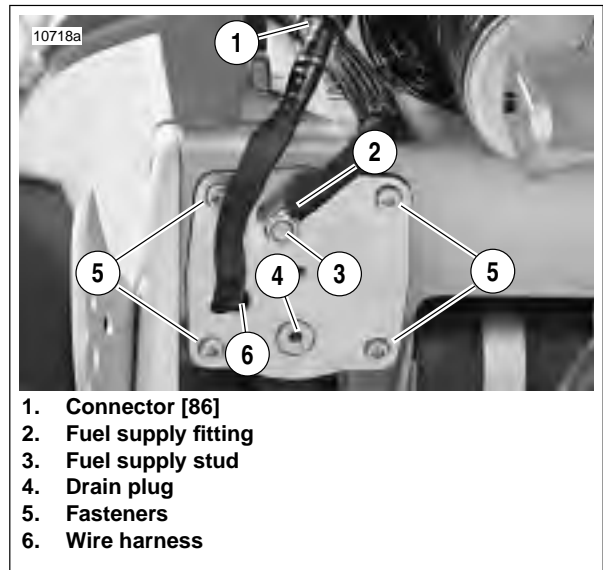

Figure 4-98. Fuel Pump Wire Harness Location
3. See Figure 4-98. Remove terminals from fuel pump connector [86].